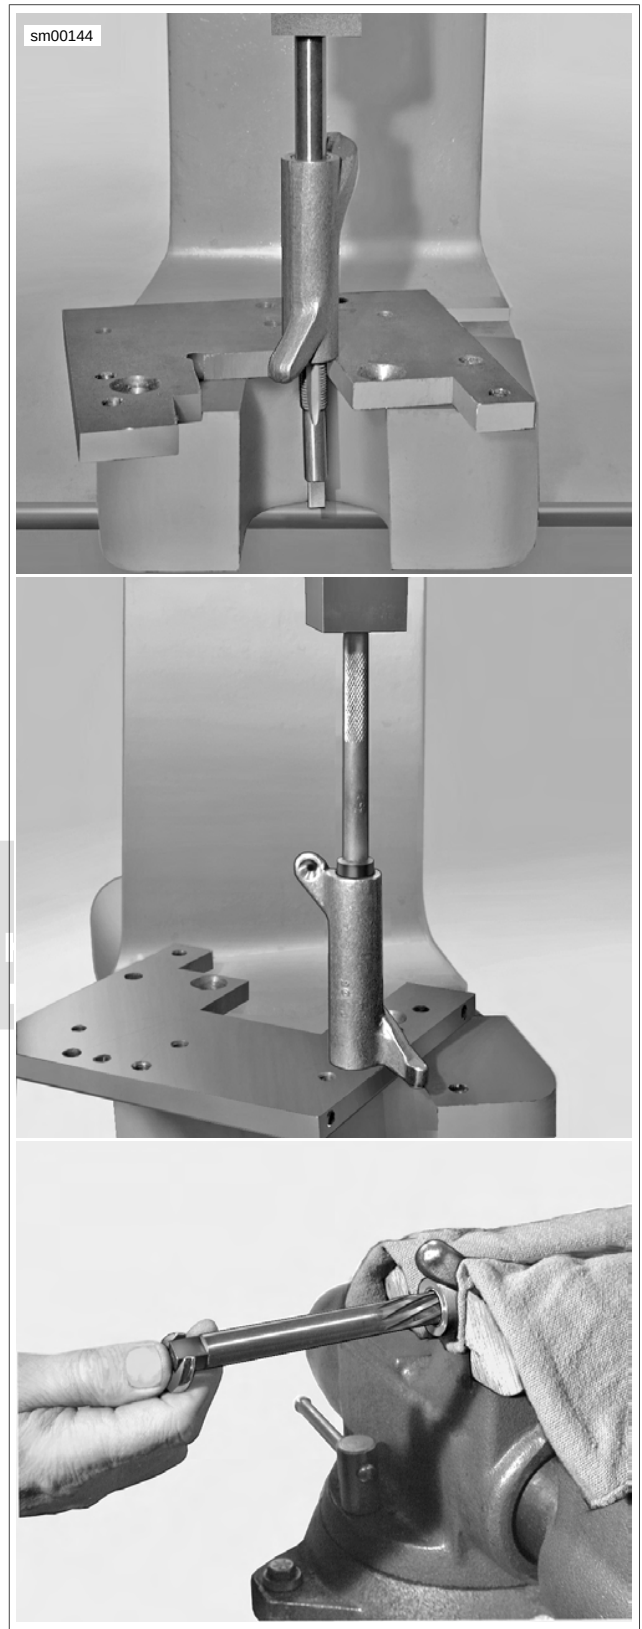

Figure 3-56. Replacing Rocker Arm Bushings
1. See Figure 3-56. To replace worn bushings, press or drive them from the rocker arm.